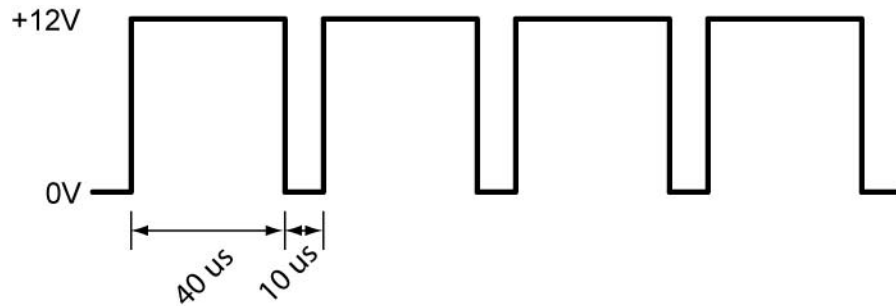

Figure 5: Duty Cycle Example Calculation
- Example Duty Cycle Calculation: A PWM waveform is +12 volts for 40 us and 0 volts for 10 us (Figure 5). What is the duty cycle for the PWM signal?
- Example from Figure 5: